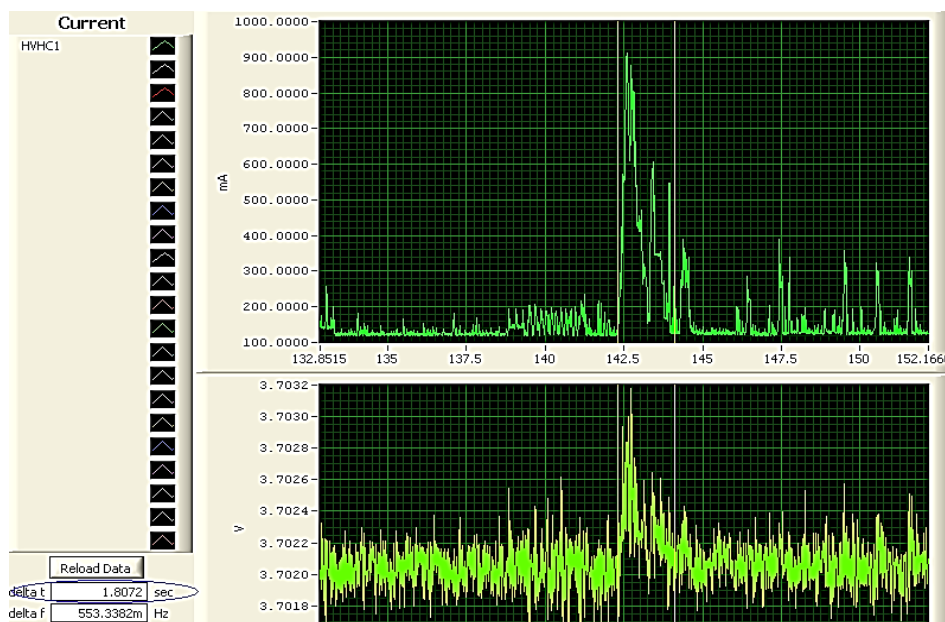
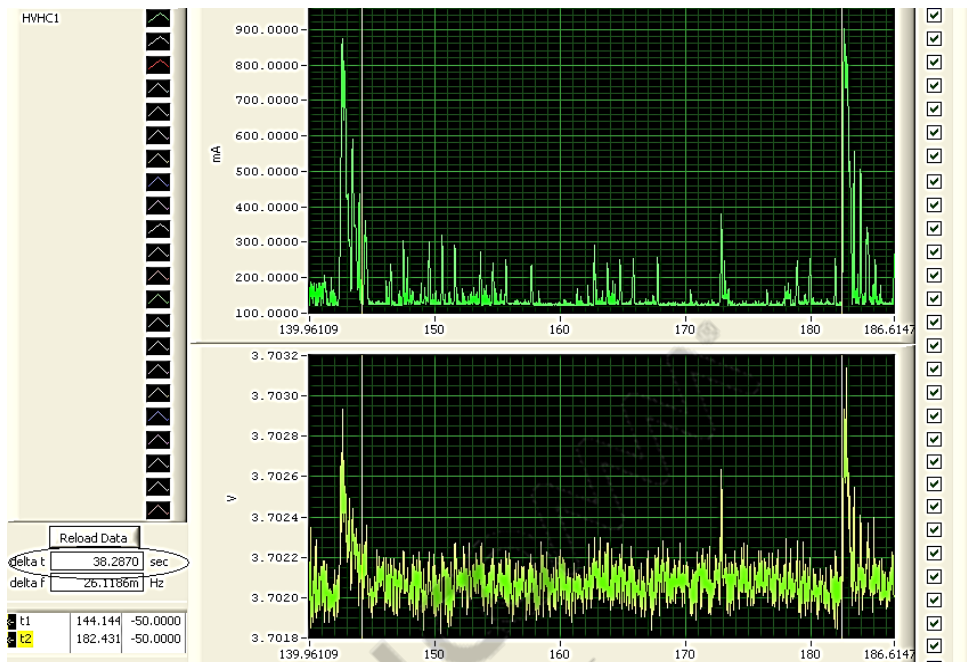

Figure 3-3 Browser waveform (active period ~1.8 sec)
Figure 3-4 Browser waveform (idle period ~38.28 sec)
- For browser and video streaming use cases, power analysis needs to be done in both the active and idle period; the active period is when the CPU wakes up and the idle period is when the CPU is in the Idle state. Example browser use case waveforms are shown in Figure 3-3 and Figure 3-4.